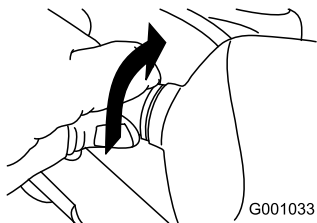

Figure 58
2. Turn the base of the bulb counterclockwise until it stops (Figure 58).